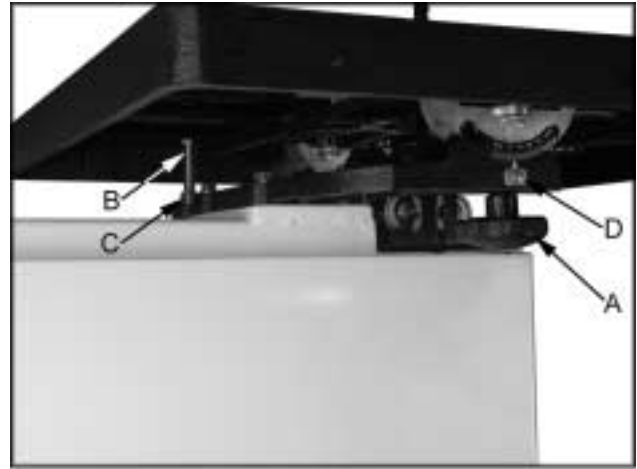

Fig. 7
2. Loosen lock knobs (A, Fig. 7) and tilt table until it rests against table stop bolt (B, Fig. 7). Tighten knobs.
5. Loosen lock nut (C, Fig. 7) and turn table stop bolt (B, Fig. 7) until it contacts the table. Tighten the nut (C, Fig. 7) to hold table stop in place. When tightening the nut hold the table stop bolt in place with a wrench to prevent movement.
6. If necessary, adjust pointer (D, Fig. 7) to zero.